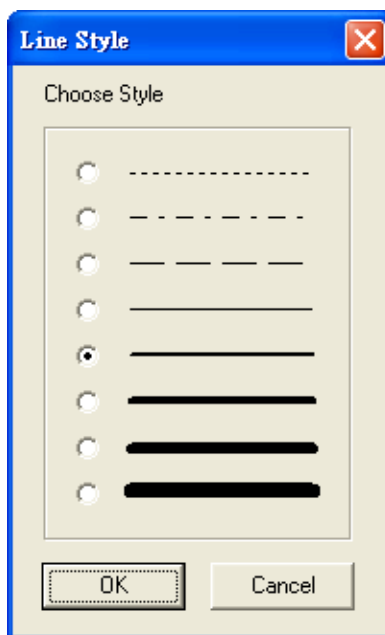

Fig. 3-10 Choose line styles
- ⊕ Line Style  : Choose line style by clicking “Line style” button and it will pop up(Fig. 3-10) dialog box.